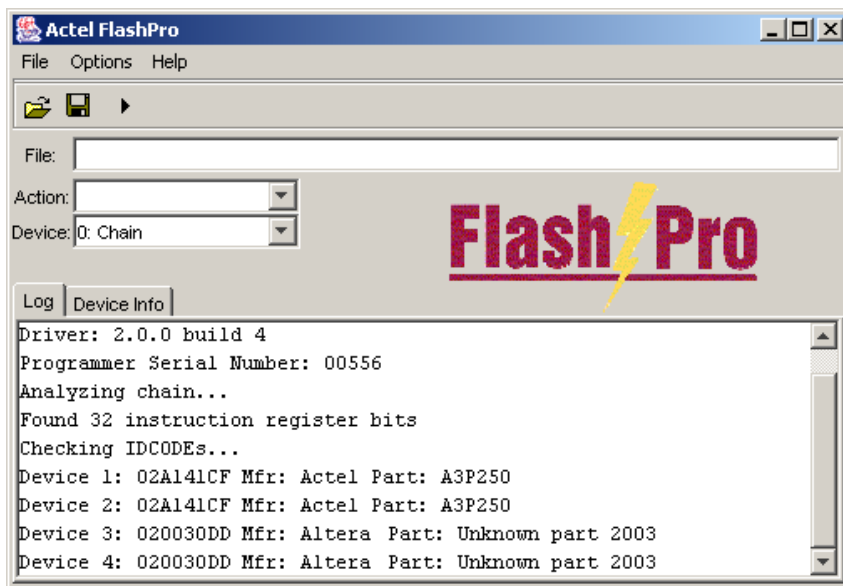

Figure 4-17. Unknown Device with Known ID
**Note:** In Figure Figure 4-17, the part name of the device is listed because it is an unknown device with a known device ID.